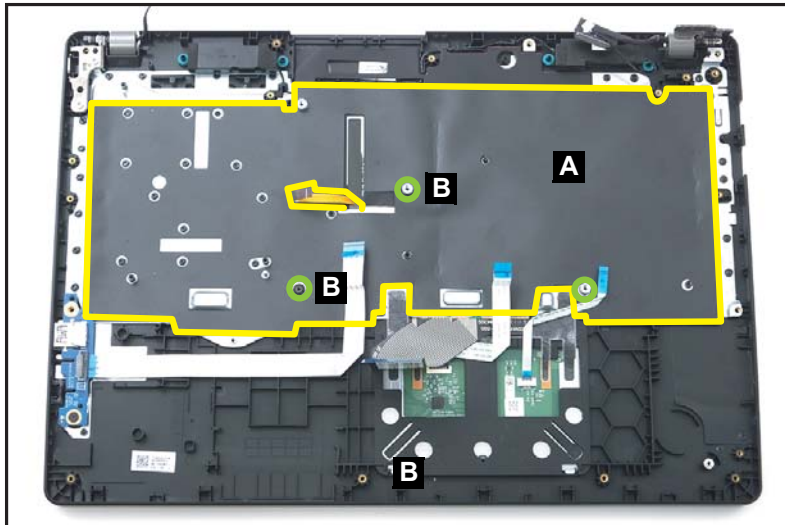

Figure 1-42. Speaker Module Removal
1. Peel off and remove the mylar (A) securing the keyboard. When detaching the mylar, pay attention to the guide pins (B) locations on the top assembly (Figure 1-42).